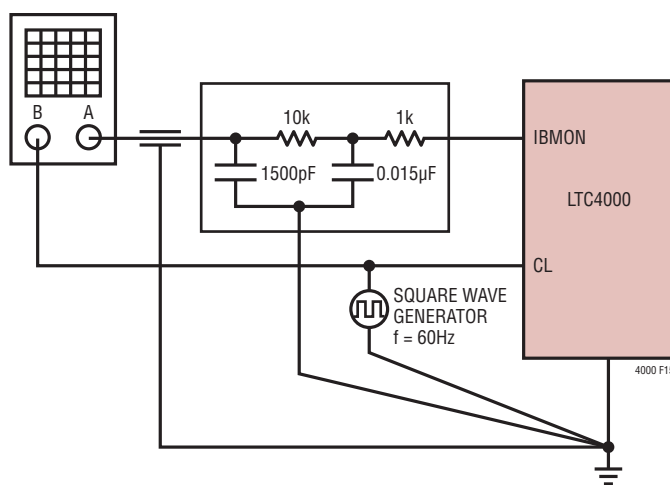

Figure 15. Charge Current Regulation Loop Compensation Setup
- For compensation, the procedure described in the empirical loop compensation section is followed. As recommended, first a $1\mu\text{F}$ C_C and 10k R_C is used, which sets all the loops to be stable. For an example of typical transient responses, the charge current regulation loop when V_{OFB} is regulated to $V_{\text{OUT(INST_ON)}}$ is used here. Figure 15 shows the recommended setup to inject a DC-coupled charge current variation into this particular loop. The input to the CL pin is a square wave at 70Hz with the low level set at 120mV and the high level set at 130mV, corresponding to a 1.2A and 1.3A charge current (100mA charge current step). Therefore, in this particular example the trickle charge current regulation stability is examined. Note that the nominal trickle charge current in this example is programmed at 1.25A ($R_{\text{CL}} = 24.9\text{k}\Omega$).